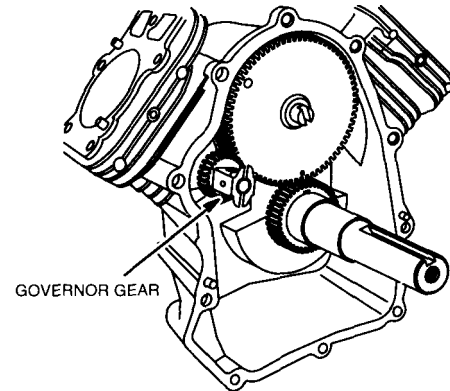

Fig. 3 - Remove Sump
3. Remove sump and discard gasket, Fig. 3.